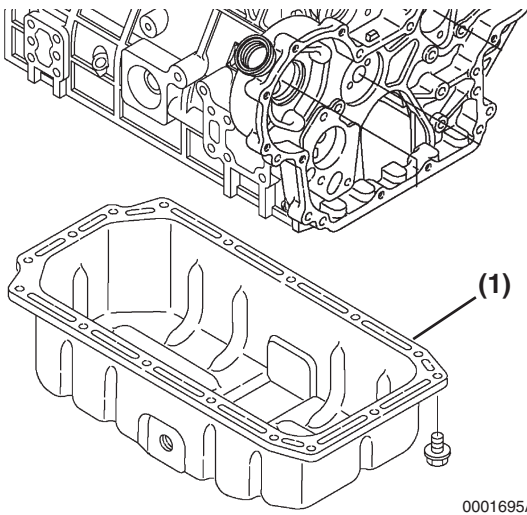

Figure 6-147
2. Apply a continuous bead of ThreeBond Liquid Gasket No. 1212, Yanmar Part No. 977770-01212 to the mounting surface of the oil pan (**Figure 6-147, (1)**). Be sure to circle each bolt hole.